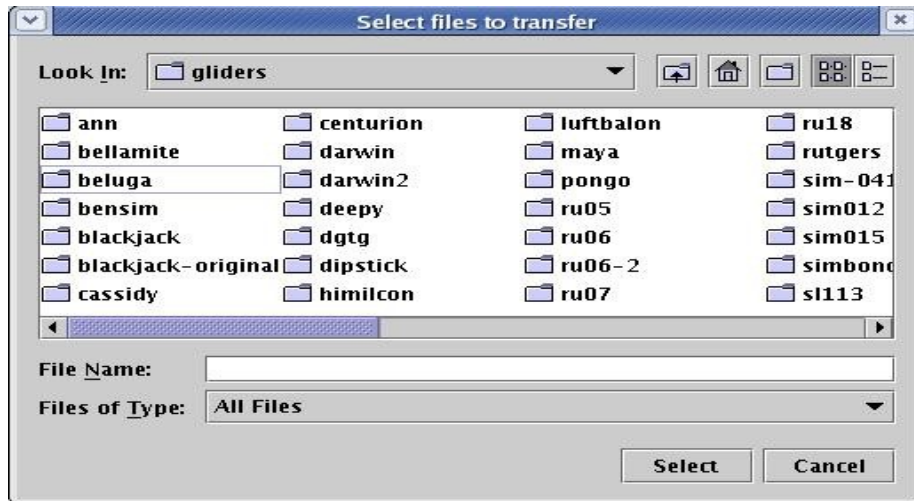

Figure 8-8. Select files to transfer Dialog
2. Select Server/Transfer Data to Server, from the Data Visualizer menu bar. A Select files to transfer dialog (similar to that shown in Figure 8-8) will appear.